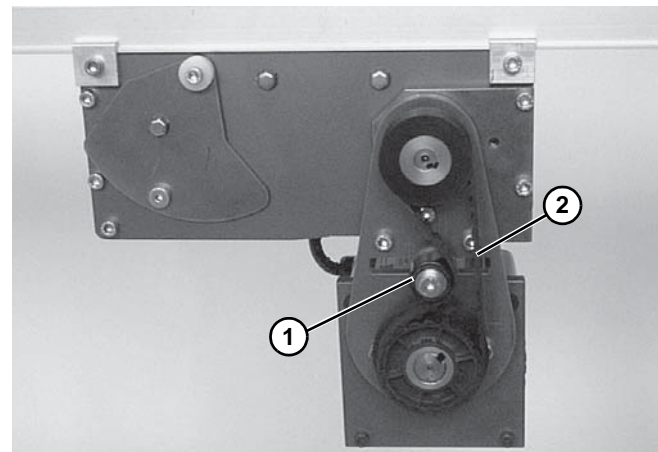

Figure 46
- Loosen belt tensioner (**Figure 46, item 1**) then remove timing belt (**Figure 46, item 2**).